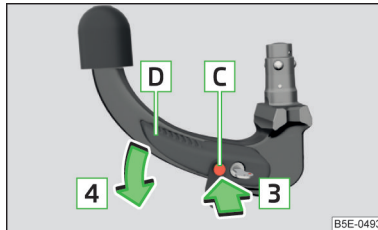

Fig. 298
- › Push release pin **C** in the direction of arrow **3** to the stop, and simultaneously push operating lever **D** in the direction of arrow **4** to the stop » Fig. 298.